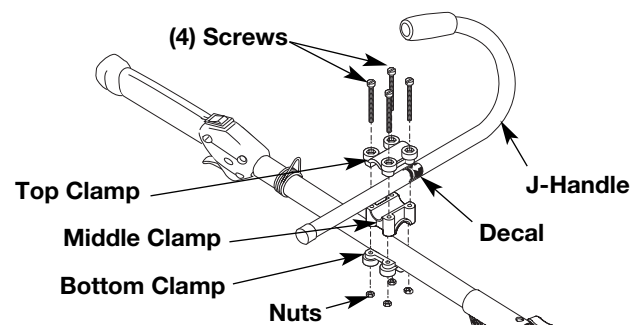

Fig. 6
2. Slide the J-handle in or out until the arrow/white line on the decal touches the clamp assembly (Fig. 6). You must first loosen the screws if the handle is pre-installed.